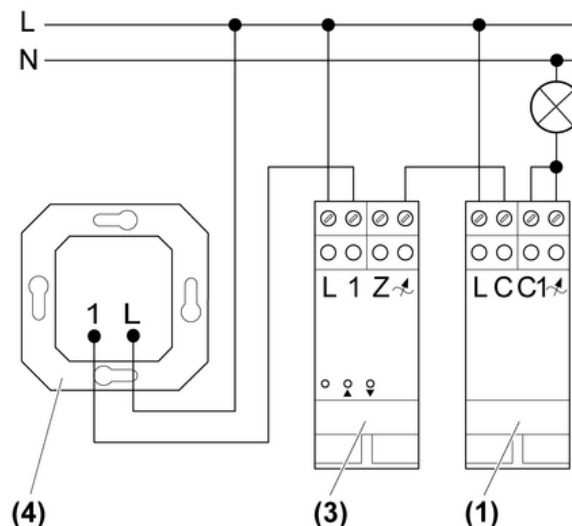
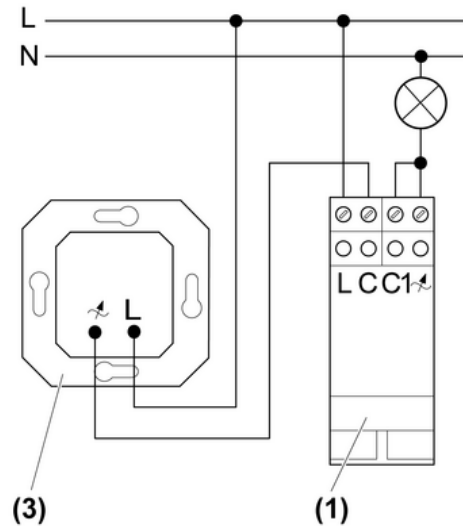
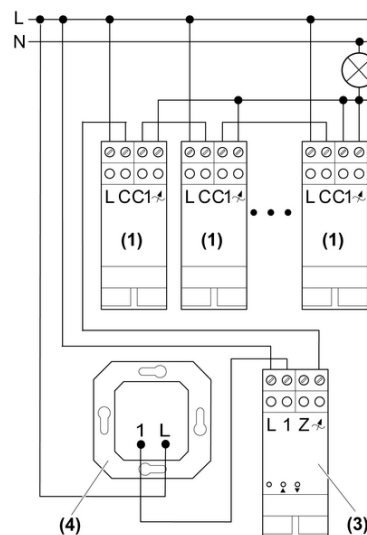

Figure 2: Connection diagram with RMD dimmer
Figure 3: Connection diagram with FM dimmer
Figure 4: Connection diagram with multiple power extensions
- Connect the power extension according to the connection diagram, connection diagram with RMD dimmer (Figure 2), connection diagram with FM dimmer (Figure 3) or connection diagram with multiple power extensions (Figure 4).